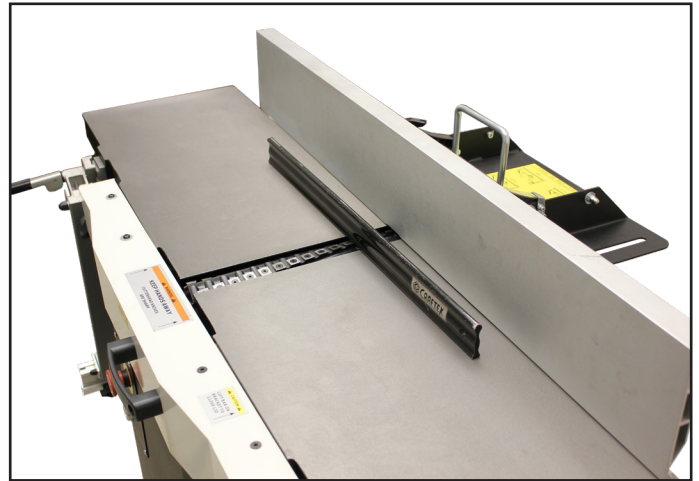

Figure 13: Jointer Table Positioning.
2. Shift the fence and cutterhead guard to the sides, enabling full access to the surfaces of both tables Fig. (9). Note: Removing the fence assembly and guard may simplify this process.
4. Utilizing a long metal straight edge, place it lengthwise along the outfeed table, extending it onto the infeed table. The straight edge should seamlessly rest level across both tables Fig 13. If so, it indicates proper alignment between the tables, and the machine guards can be reinstalled for
1. Raise the infeed table to its highest, 0", level and use a metal straight edge to check its level flatness with the outfeed table, see Figure 13.
4. With the table up, the Support Base (#120) for the infeed table is exposed. The base has three Hex Bolts (#132) and four Set Screws (A,B,C,D) that fasten the table to the cabinet. The set screws can be adjusted to slightly tilt the infeed table to align it with the outfeed table. FIG. (17)